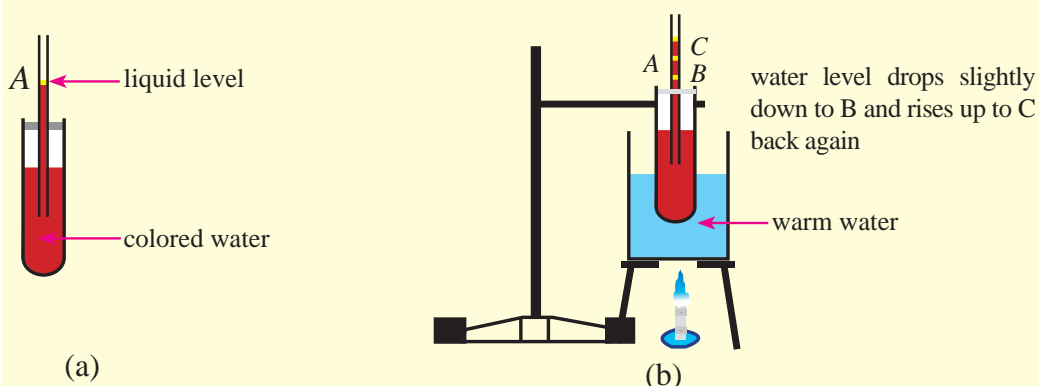

Figure 9.22 - Illustrating expansion of liquids
- Fill a test tube with colored water and fix a rubber stopper with a glass tube to the test tube as shown in the figure 9.22(a).